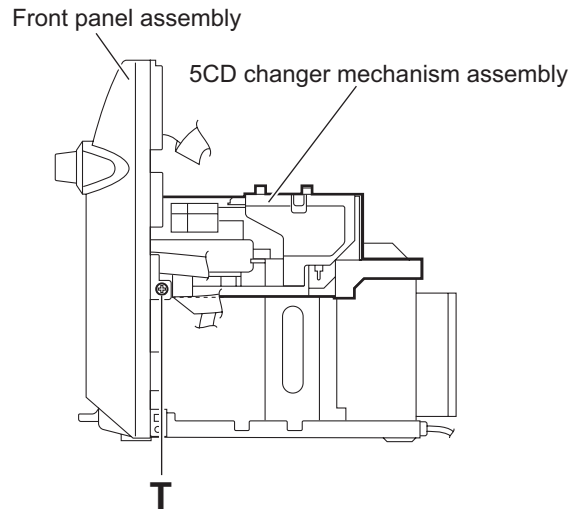

Fig.21
3.1.10 Removing the 5CD changer mechanism assembly (See Figs.21 and 23)
- (1) From the both sides of the main body, remove the two screws **T** attaching the 5CD changer mechanism assembly to the front panel assembly. (See Figs.21 and 22.)
- (2) Take out the 5CD changer mechanism assembly from the main body.
(3) From the both sides of the main body, remove the two screws T attaching the 5CD changer mechanism assembly to the front panel assembly. (See Figs.21 and 22.)